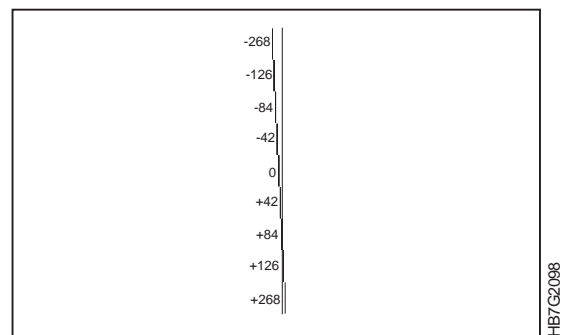

Figure 186. Vertical Control
1. Find the front-to-back registration area on the X-side of the page. The vertical control, as shown in Figure 186, is to the left of the word “IBM”.